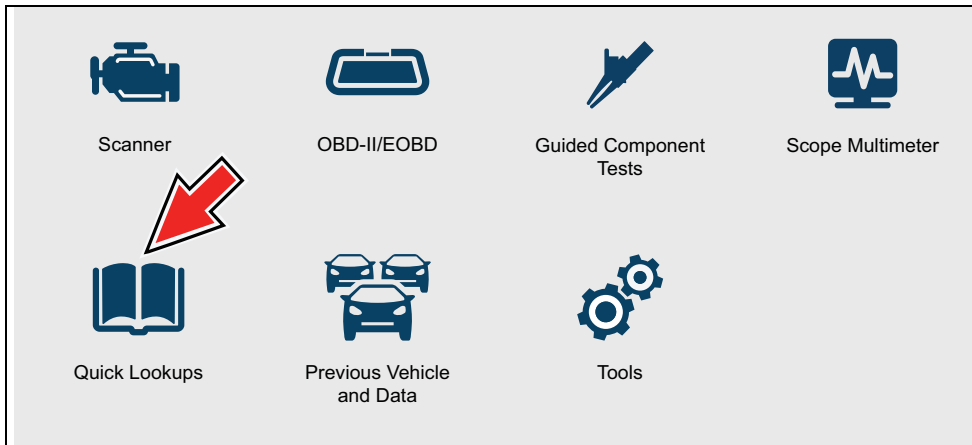

Figure 9-1 Home Screen - Quick Lookups Icon
- **From the Home screen** - select the **Quick Lookups** icon (*Figure 9-1*), then select **Oil Specs and Resets**, then proceed to Step 1.